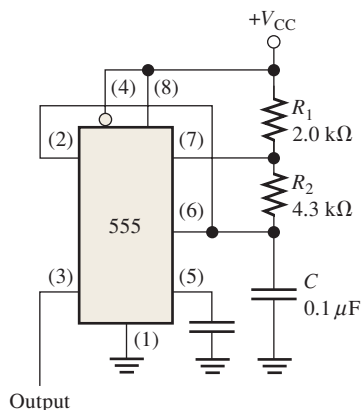

FIGURE 7–91
30. A 555 timer is configured to run as an astable multivibrator as shown in Figure 7–91. Determine its frequency.